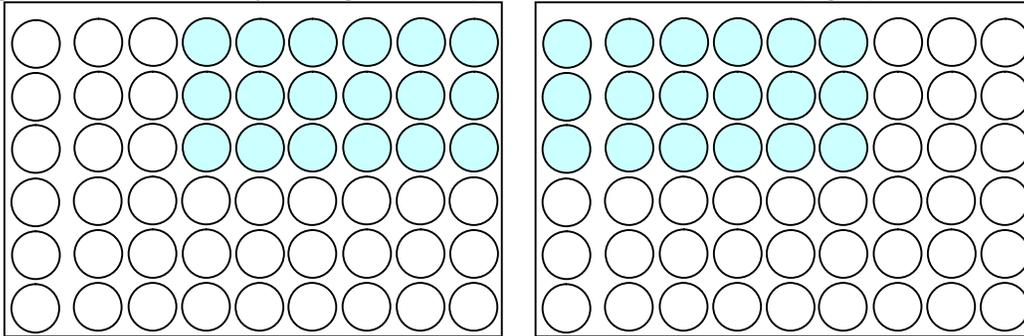

Fig. 2 – High Beam ON
- High Beam – obtained by turning ON the upper half of the LED Matrix (Fig. 2)